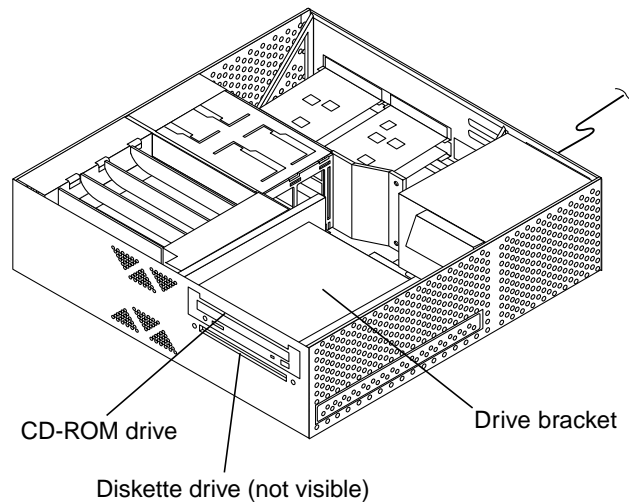

Figure 2-9 Drive bracket and drives
- 1. Remove the screws securing the drive bracket to the chassis (Figure 2-9).**